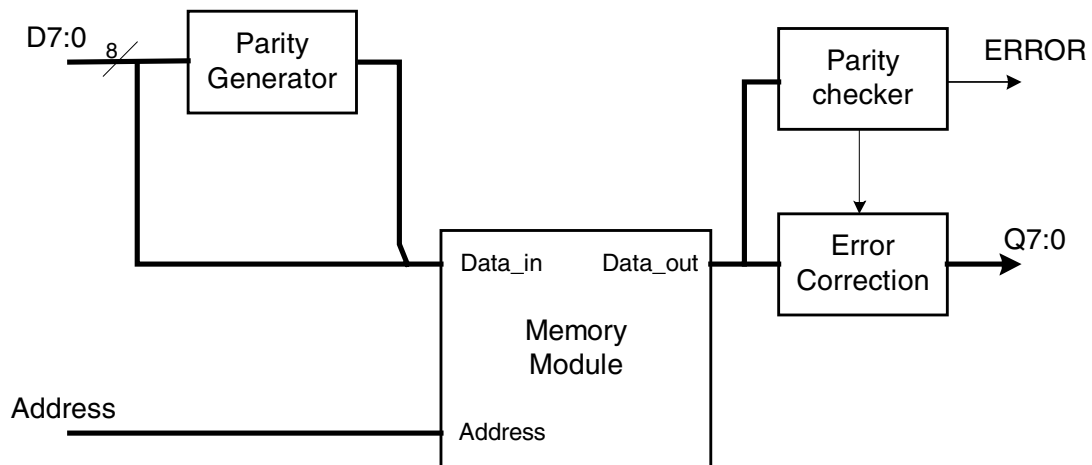

Figure 5
6. *Figure 5* shows an error-correcting memory module that can correct single bit error in the data D7:0 using Hamming codes. The signal ERROR at the output is high when an error is detected and low otherwise.